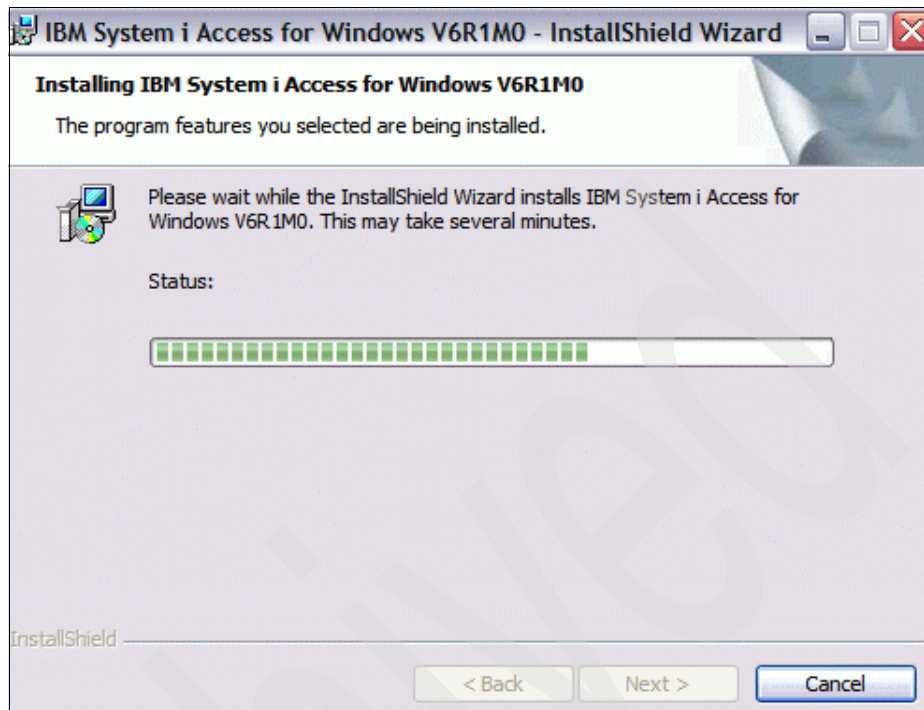

Figure 5-16 IBM System i Access for Windows installation progress
9. The installation starts automatically after you select **Next>** in the previous menu. Figure 5-16 on page 233 shows the progress of the installation process.